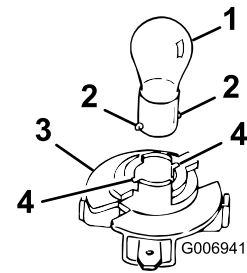

Figure 33
4. Insert and rotate the bulb counterclockwise until it stops (approx. 1/4 turn), and remove the bulb from the bulb holder (Figure 33).
2. Insert the base into the holder (Figure 33).